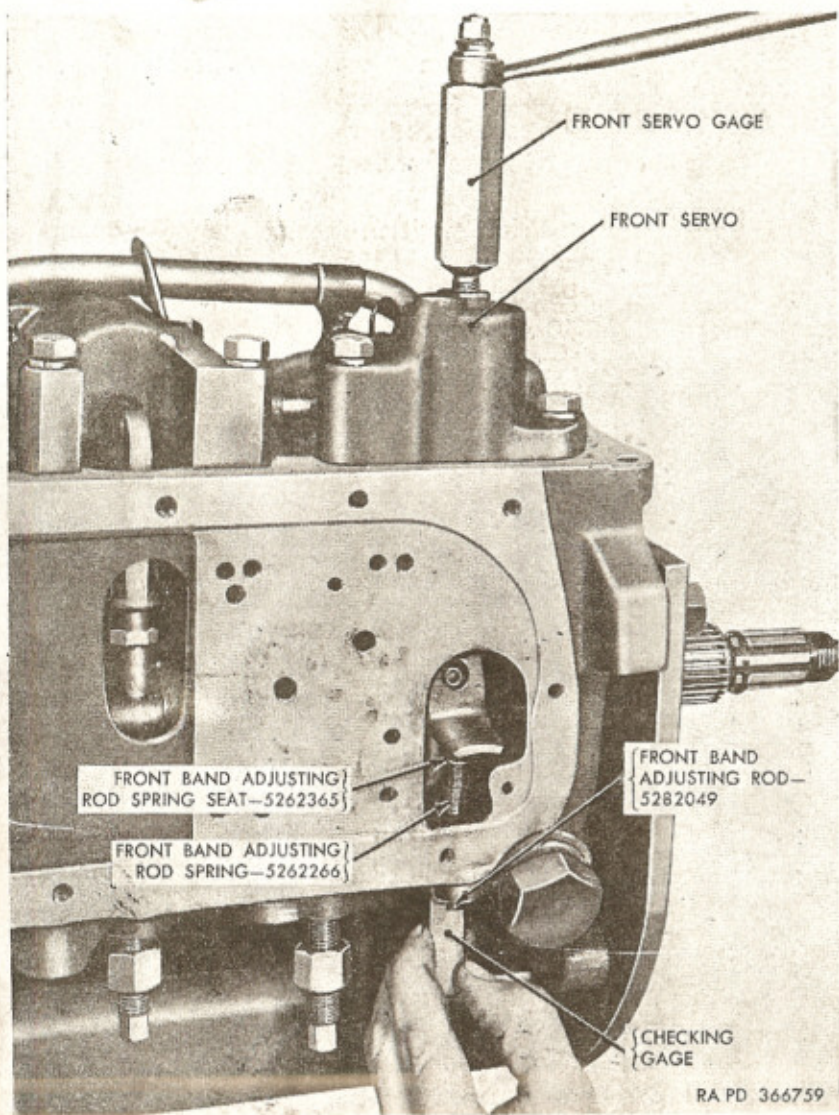

Figure 201. Use of adjusting rod checking gage—A7950250 and front servo adjusting gage—8708127.
b. Remove headless slotted pipe plug from bottom of front servo body. Loosen the "hex" adjusting screw of front servo gage—8708127 (fig. 201), until approximately one-eighth inch of threads are exposed above gage body. Install gage in bore of servo body from which pipe plug was removed. Tighten gage in bore by hand only until gage is firmly seated.
e. With checking gage—A795025^o (fig. 201), measure front band adjusting rod. Cut end of rod off even with notch on gage, making a clean cut which is free of burrs.